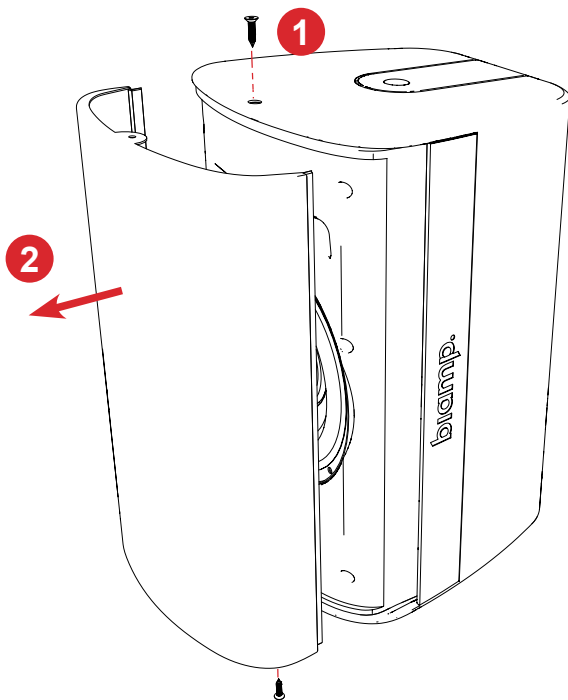

Figure 19. After removing the screws, carefully pry off the grille
1. Carefully remove the screws at the top and bottom of the cabinet. Pull the grille away from the cabinet. Take care not to bend the tabs or the grille (Figure 19).